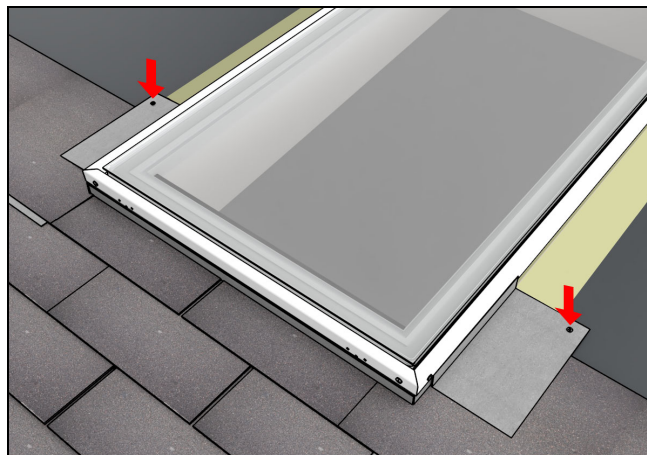
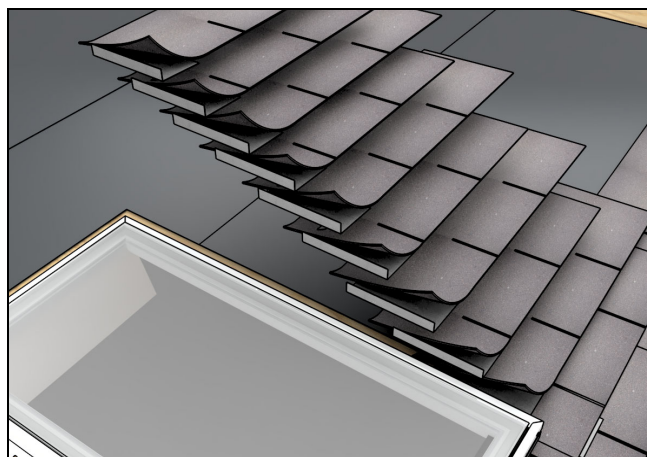

Figure 18
Figure 19
16. Place the second step flashing as shown in Figure 18. Align with bottom of shingle. Repeat steps until near the head jamb. See Figure 19.